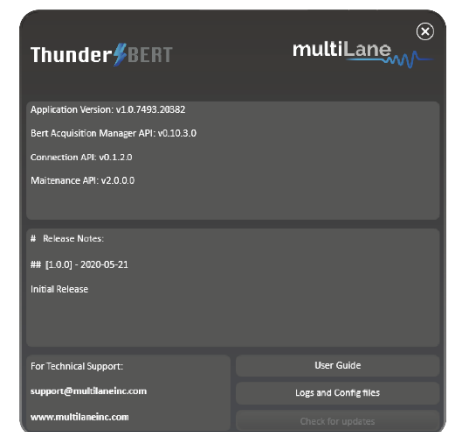

Figure 7: About window
- **About Window** (Figure 7) will give you access to the necessary information about the product including: